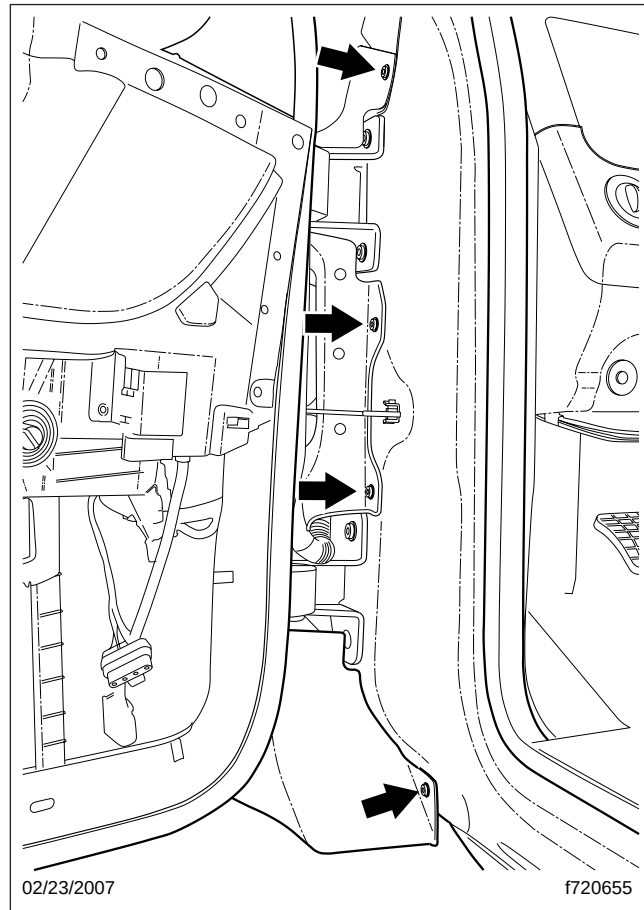

Fig. 4, Cowl Side Panel Rear Fasteners
- 2.3 Remove the four Torx screws and washers that attach the cowl side panel to the door frame; see **Fig. 4**.
- 10.1 Connect the wiring to the auxiliary side turn indicator lamp, then position the cowl side panel in place and attach it to the door frame with four Torx screws and washers; see Fig. 4.